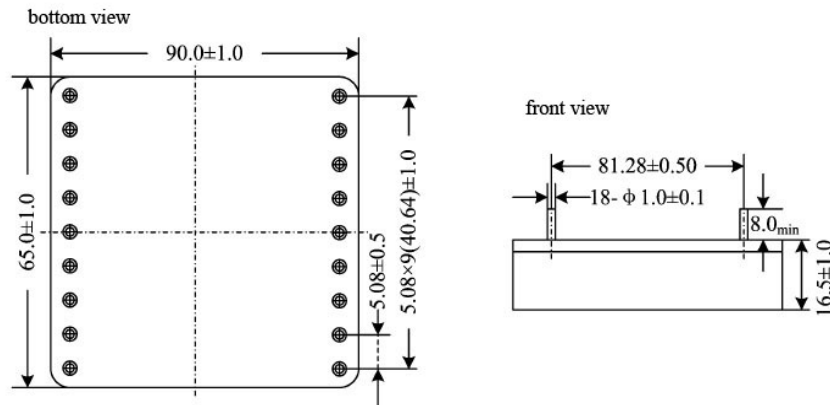

Fig. 6 Outside view and dimensions of package
9. Package specifications (Fig. 6, Table 4)